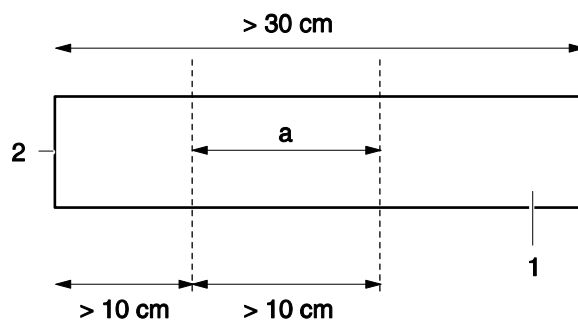

Figure 4 - Calculating the processor speed
Proceed as follows to determine the exact processor speed (fig. 4):
1. Take a cleaning film (fig. 4,1) of preferably at least 30 cm length.
2. Draw a line on minimum 10 cm from the feeding edge of the film (fig. 4,2).